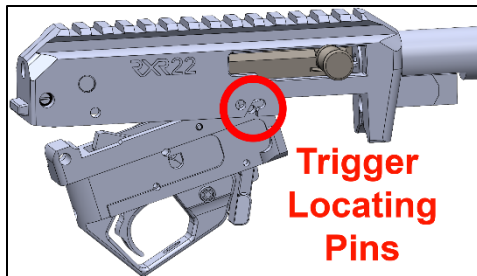

Figure 32
- Insert the trigger locating pins into the recesses in the receiver – Figure 32. Allow the trigger group to sit into the receiver.